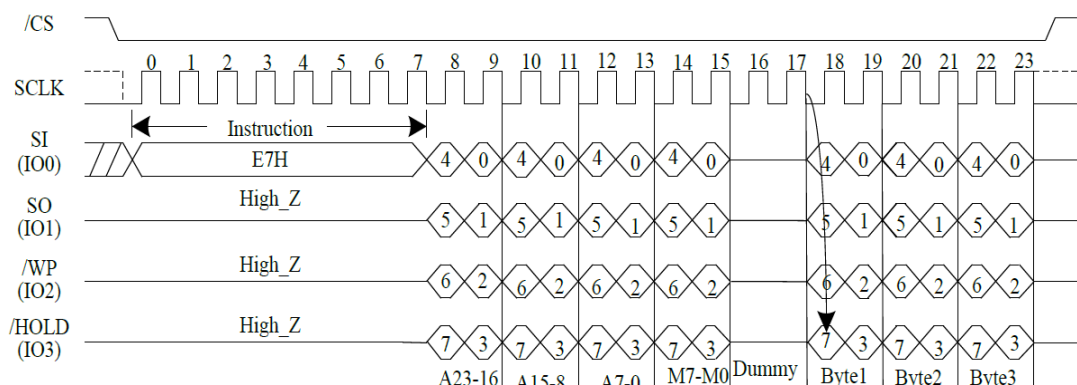

Figure 15. Quad I/O Word Fast Read Sequence Diagram
The Quad I/O Word Fast Read instruction is similar to the Qual Fast Read instruction except that the lowese address bit (A0) must equal 0 and 2-dummy clock. The instruction sequence is shown in the followed Figure 15, the first byte addressed can bi at any location. The address is automatically incremented to the next higher address after each byte of data is shifted out. The Quad Enable bit (QE) of Status Register (S9) must be set to enable for the Quad I/O Word Fast Read instruction.